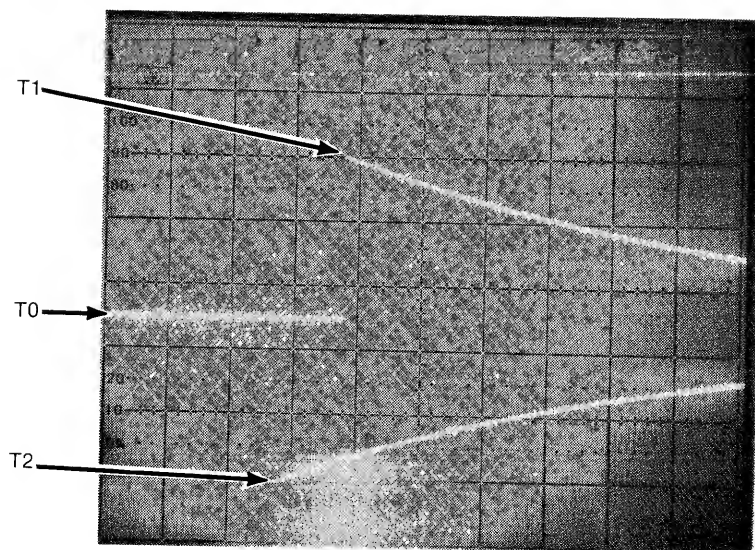

Figure 5-5. Track 0 Waveform
- f. With the scope connected and setup, the waveform should be similar to that of figure 5-5. The duration from T0 to T1 must be less than 18mS and the duration from T0 to T2 must be less than 24mS. If these times are within the limits, no adjustment is necessary. If either of the time limits is exceeded, proceed with steps (g) thru (l).
- k. With the torque driver adjusted to 8 inch-pounds, retighten the track 0 switch retaining screw while observing the oscilloscope pattern (refer to Figure 5-5).